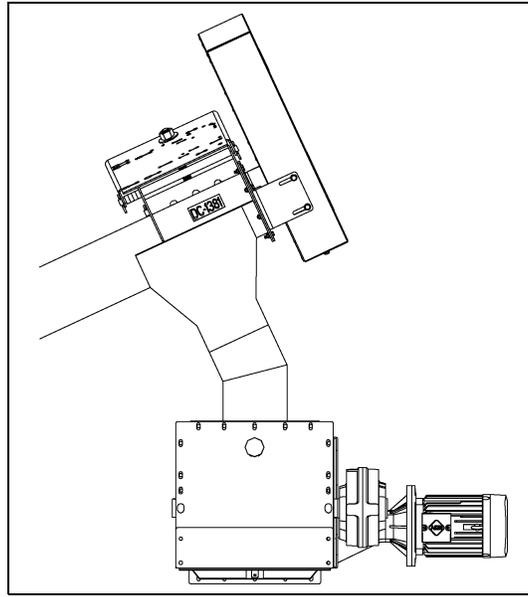

Figure 1E
3. A shorter tube may be used only where the tube is directly connected to other handling equipment. (See Figure 1E.)